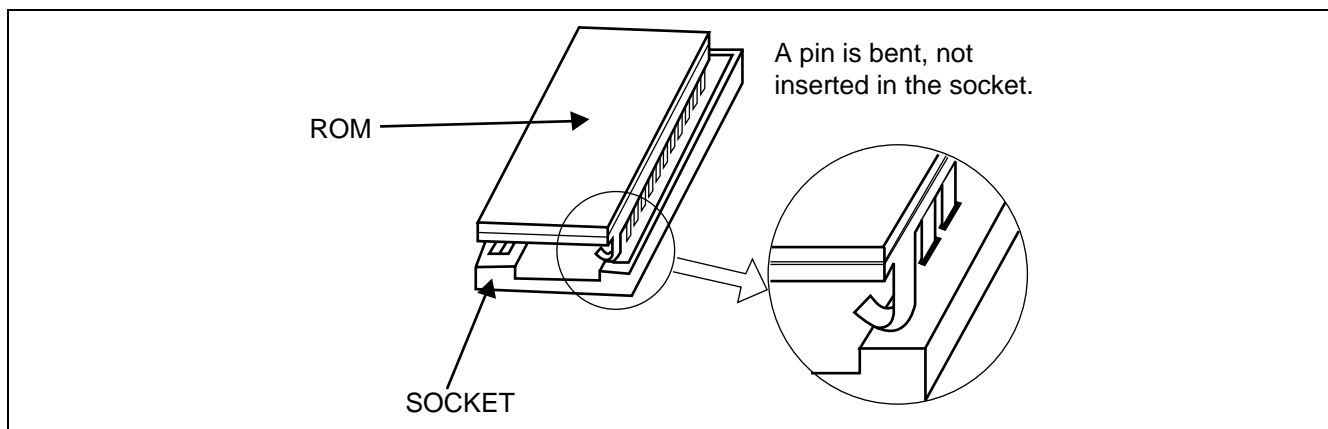

Figure 2-30 How to Set the ROM in IC Socket
- (3) When a circuit card appears to be faulty, check the following items before replacing it with a spare:
- (d) Check the ROMs to ensure proper seating in the IC socket. Figure 2-30 shows a leg that is bent and not set in the socket.